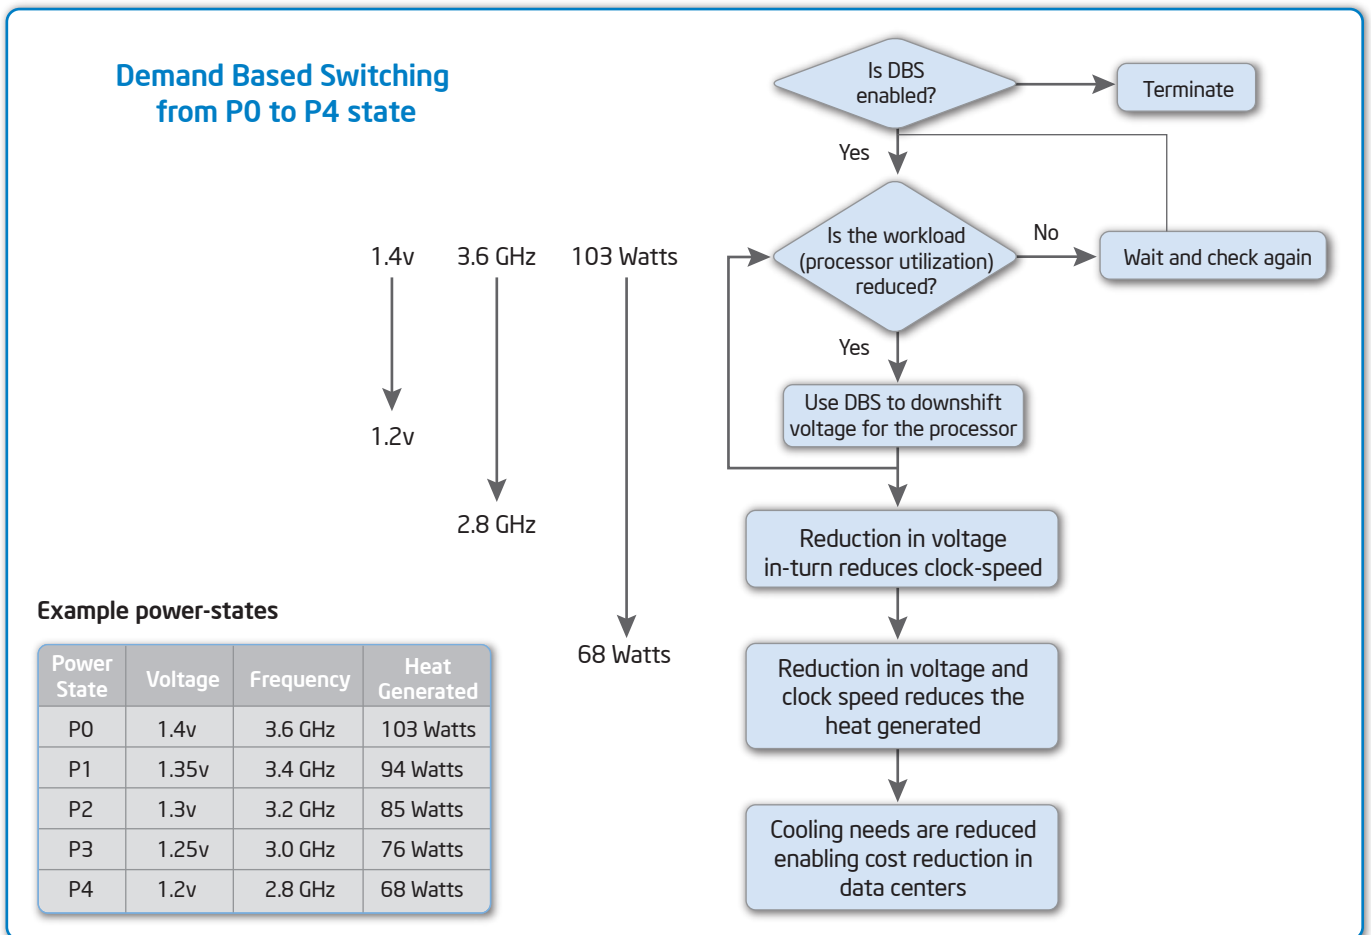

Figure 2. Demand Based Switching leading to CPU power reduction.
The table inset in Figure 2 gives examples of a processor’s different P-states. In the example, a savings of 35 watts occurs when the processor runs at the lowest performance state. This can be achieved by turning ON the DBS functionality on the BIOS Setup screen. This state should always be selected during lean periods of application usage. After enabling the DBS functionality, one can set policies in the operating system (OS) to become effective at different workloads. When application workloads change, it may change a processor’s utilization, initiating a reduction in the processor voltage and clock speed. In turn, the processor’s power consumption and corresponding heat generation will drop, leading to cost savings in server power consumption and data center cooling requirements.